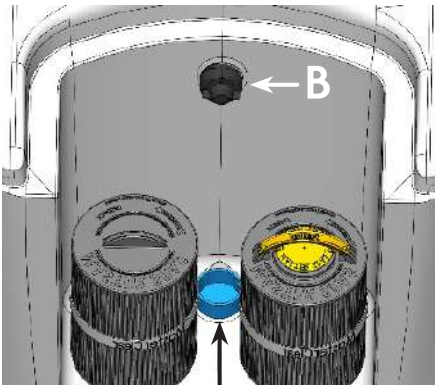

Figure 1
- Smart Cell Base Connection fitting (Figure 1, A) – Located in the bottom of filter housing, this fitting secures the base of the Smart Cell and allows it to twist on/off for easy install, removal and replacement purposes.
- Smart Cell Wall Connection fitting (Figure 1, B) – Located at the top of the filter housing, this electrical connection twists on/off for installation, removal and replacement of the Smart Cell generator. If the spa did not have the Master Clear Salt System option selected when built, then the preinstalled wall fitting includes an 18" wire harness, found inside the equipment cabinet area, to allow the spa to be "Ready" for simple aftermarket Master Clear Salt System Activation Kit installation.